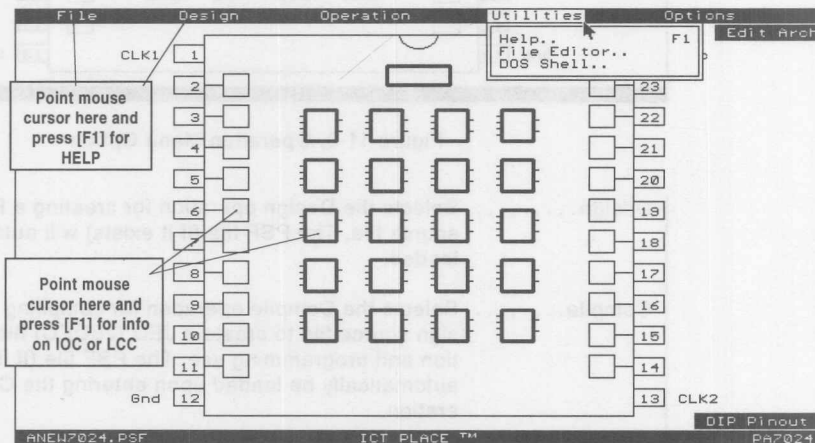

Figure 11-4. Utilities Menu Option
- Help** Provides general information on the Help instruction. For individual Help on each command, move the mouse to the command in the menu window and press the [F1] key. See Figure 11-4 for additional Help locations.